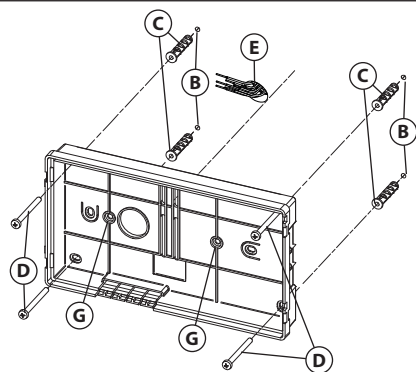

Fig. 4
- Put the base of the unit on the wall at approx 135cm from the finished floor (Fig. 3) to match the points for the fixing holes (B) (Fig. 4) remembering that the wires (E) (Fig. 4) must be fed through the large hole (F) (Fig. 4). If you use the flush mounting box 503, embed it into the wall vertically at approx. 140cm from the finished floor and the base.